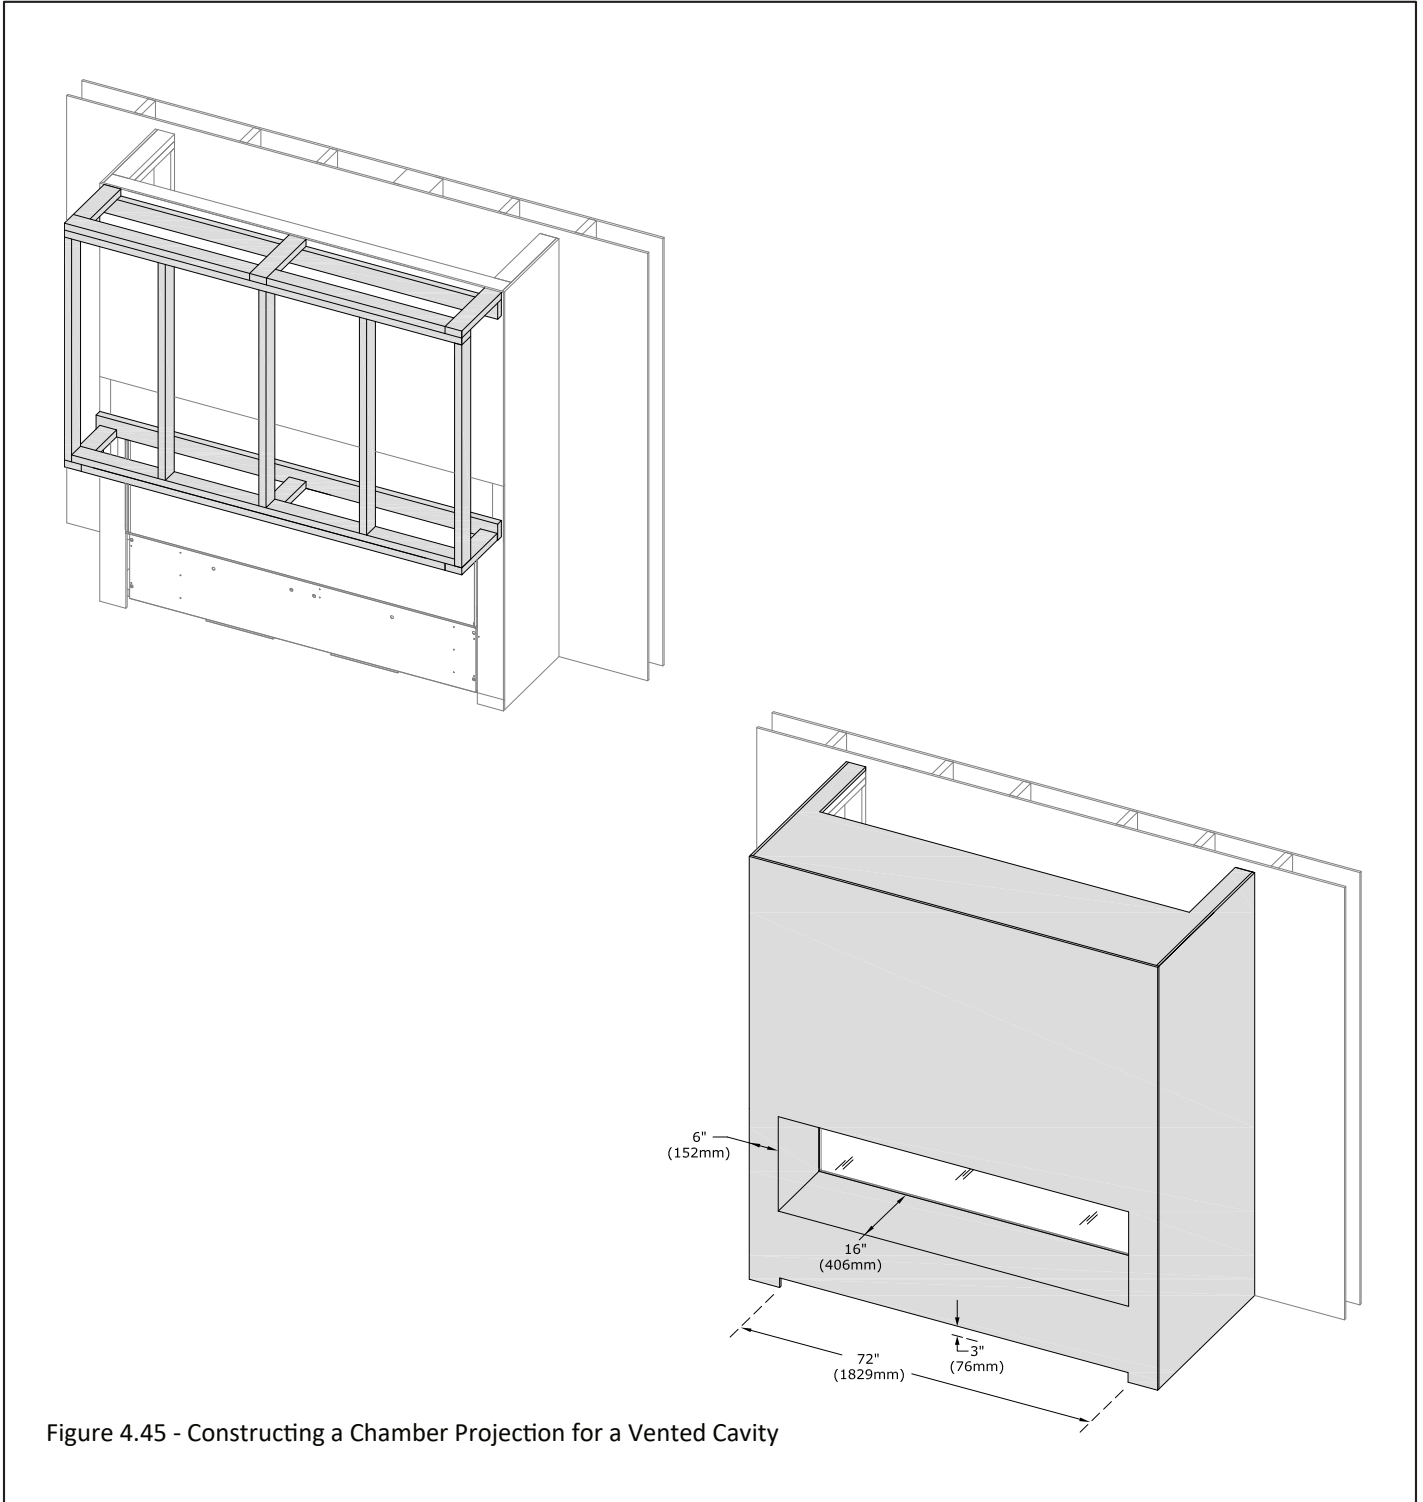

Figure 4.45 - Constructing a Chamber Projection for a Vented Cavity
- **Combustible Mantel Leg:** A mantel leg can be installed at 0" (0mm) to the fireplace side finishing edge. Refer to Figure 4.45 which shows a combustible projection up to a max of 16" (407mm) on the fireplace side finishing edge.